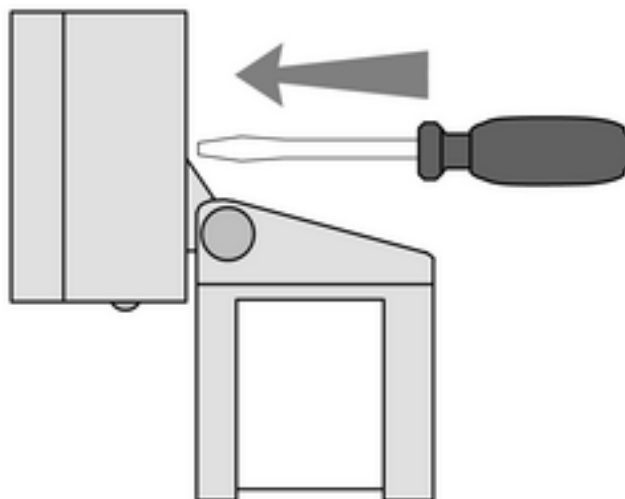

Figure 8
- Tilt the sensor head downwards. Slacken the screw on the connection socket (5) (Figure 8).
- Remove the base plate (6) from the connection socket.
- Slacken the screw on the connection socket (5) (Figure 8).